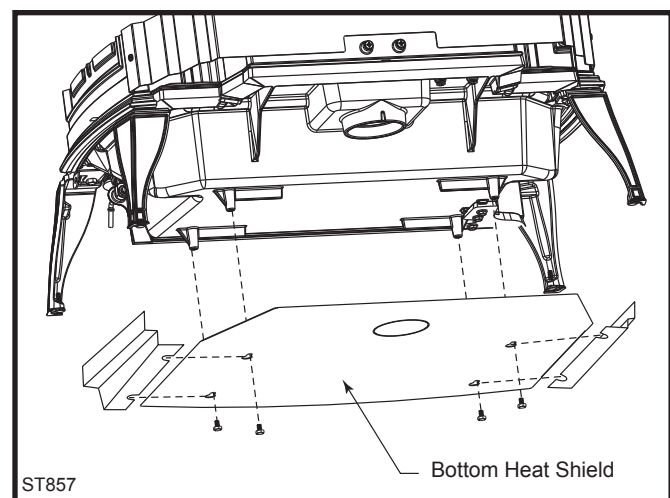

Fig. 22 Attach the optional bottom heat shield.
3. Pass all four bolts through the large end of the keyholes and then pulling the shield forward to engage the smaller ends of the keyhole slots. (Fig. 22)